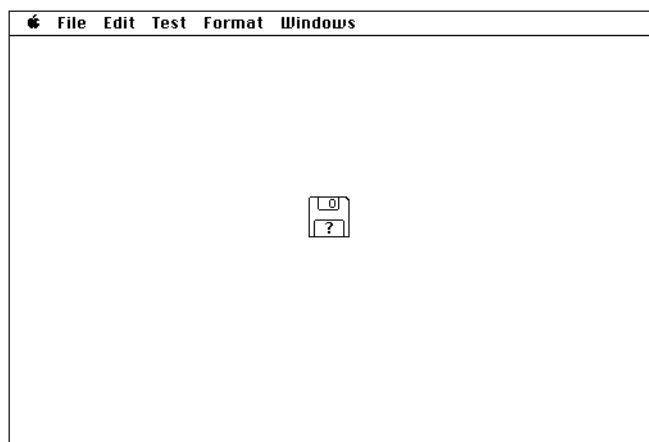

Figure 1
- 7.25.2 Go to the control room and turn the “Computer Hard Disk” drive (lower unit) power switch on, wait 15 seconds, then turn the “Macintosh Computer” power switch on. The computer will beep and an icon representing a floppy disk will appear on the screen (see figure 1).